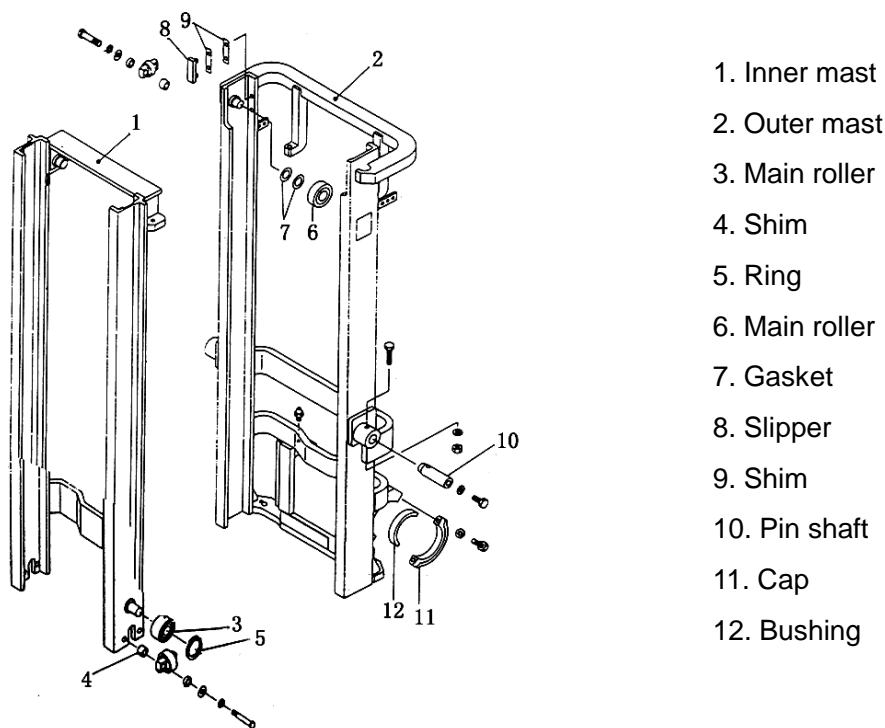
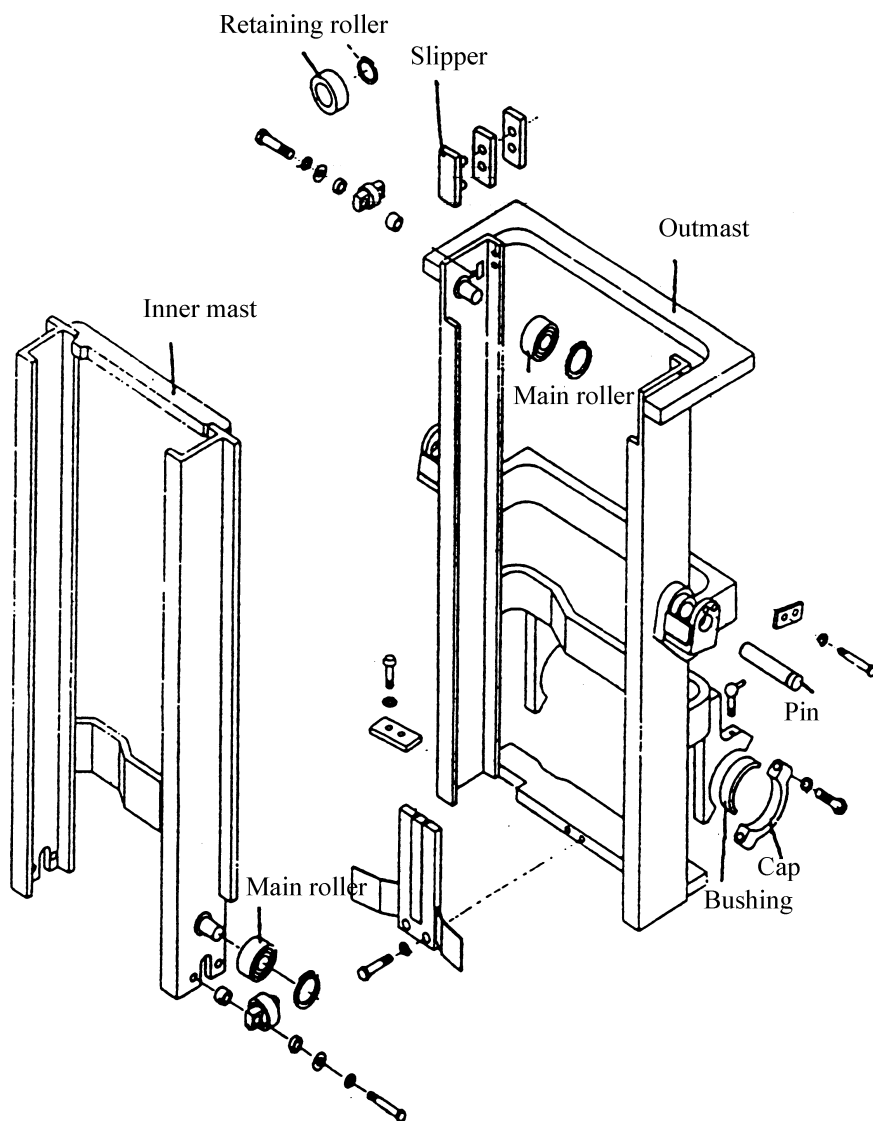

Fig. 8-1 Inner and outer mast (1-1.5t)
Fig. 8-2 Inner and outer mast (2-3t)
8.1.1 Inner and outer mast (Fig.8-1 and Fig. 8-2)